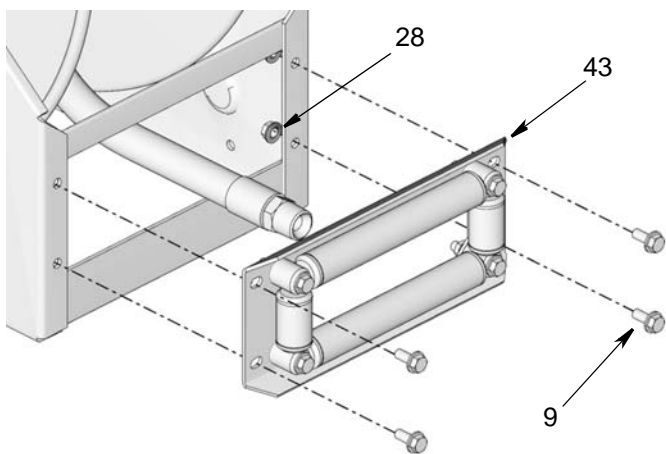

FIG. 71
5. Remove screws (9) and nuts (28) to remove roller plate (43) (FIG. 71).